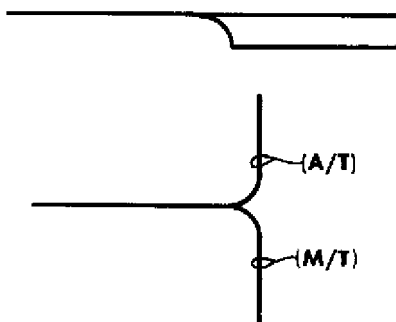

Fig. 2: Identifying Option Symbols
8) The lines shown in Fig. 2 are called options. Which path or option to take depends on what engine or systems the vehicle has.